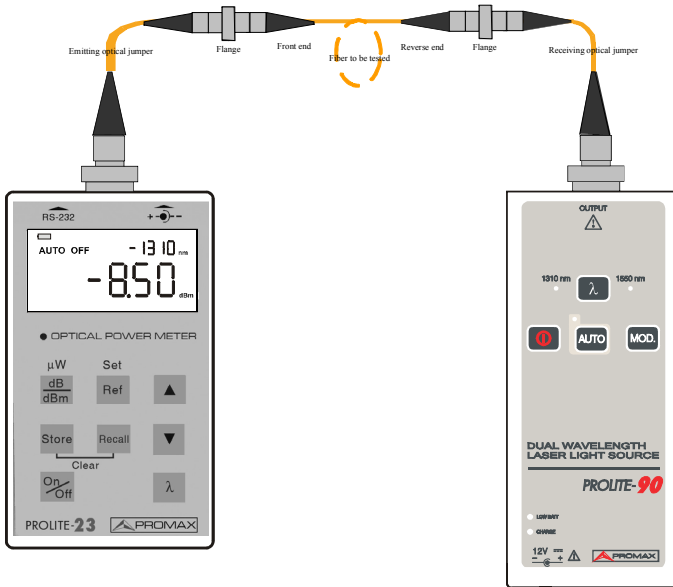

Figure 15.- Forward loss testing
5. Connect laser sources and optical power meters to their respective patch panel ports using the test jumpers, as shown in figure 15. Calculate the reverse link loss using the formula “REVERSE LOSS (dB) = P1 – P3”.